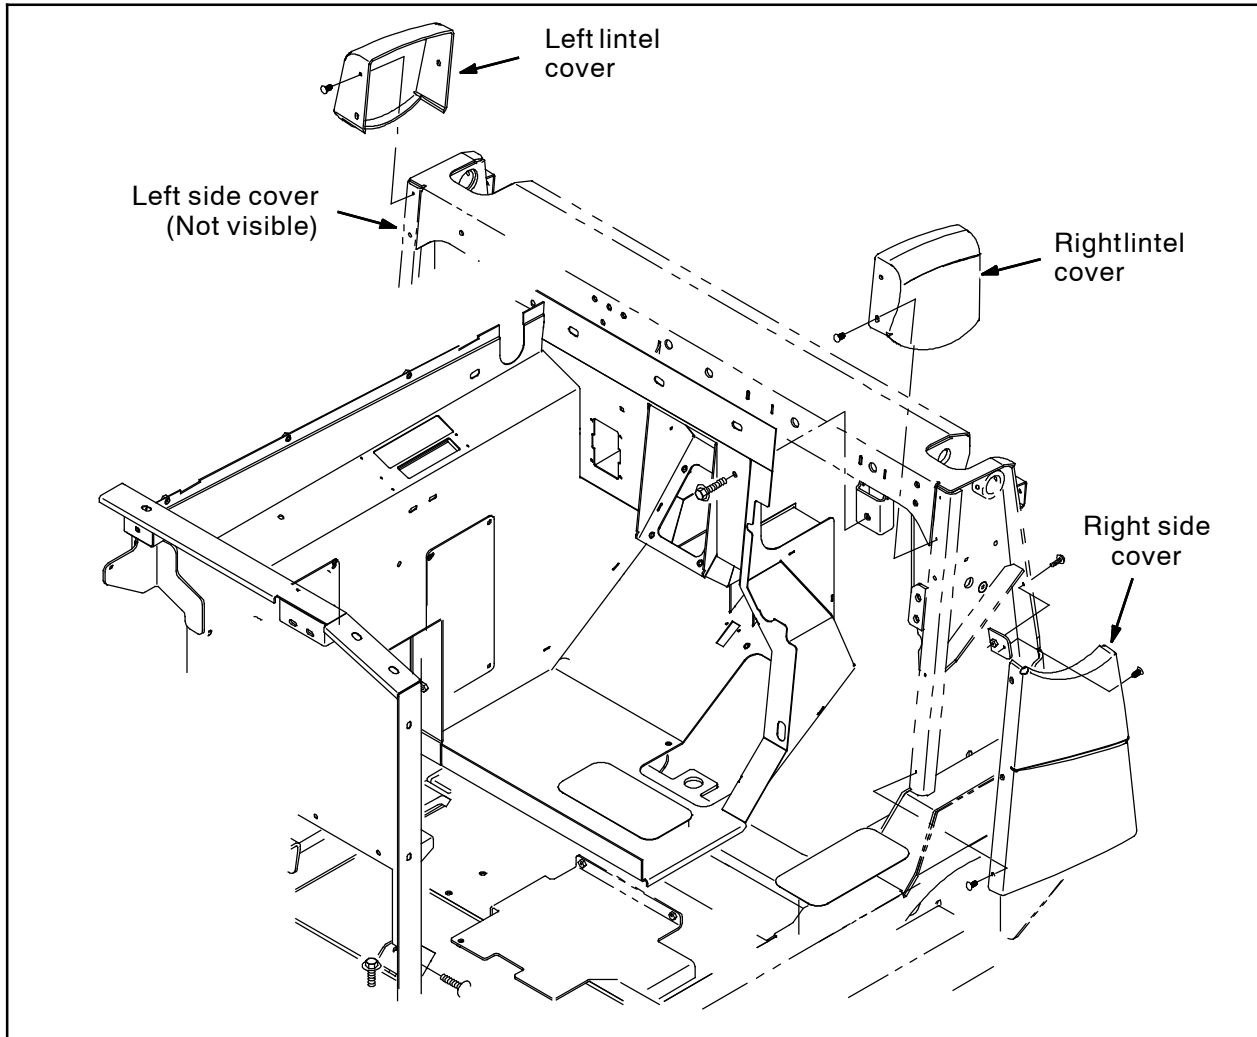

FIG. 1
1. Remove the right side cover, left side cover, right lintel cover, and left lintel cover from the machine. (Fig. 1)